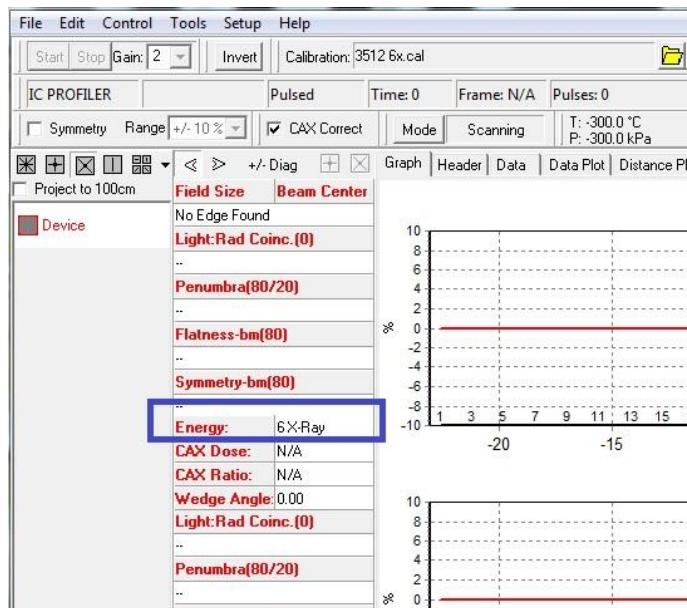

Figure 25: Verify Energy Selected
- Verify that the correct energy is displayed in the SNC display (Figure 25). If not, use the *Setup > Set Energy* menu to set the correct energy. Energy can be changed before or after the profile is acquired without affecting the profile.